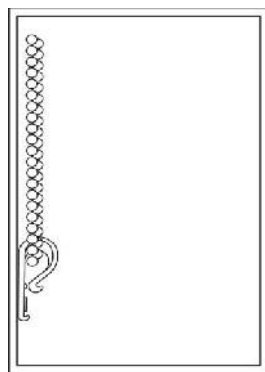

Figure 1
- Insert the control mechanism into the control bracket (part B) so it is engaged (Figure 1)
1. Position the tension device at the bottom of the chain loop (Figure 1).